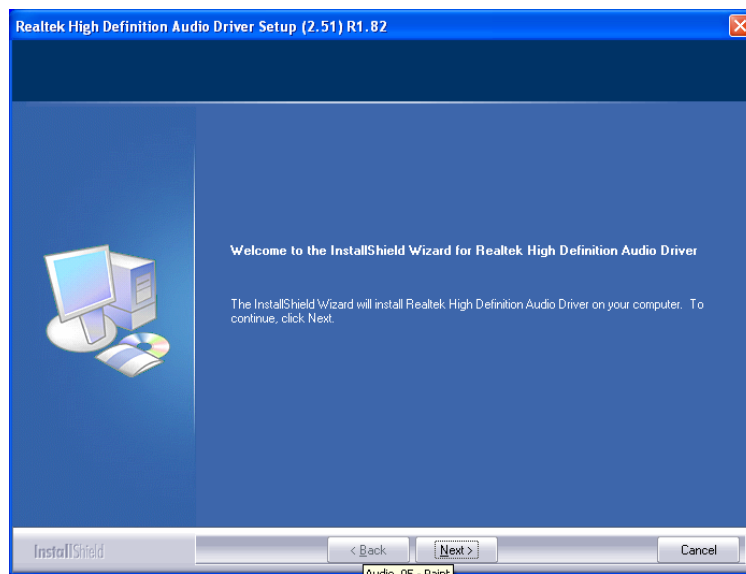

Figure 7-19: InstallShield Wizard Welcome Screen
Step 3: Once initialized, the InstallShield Wizard welcome screen appears (**Figure 7-19**).